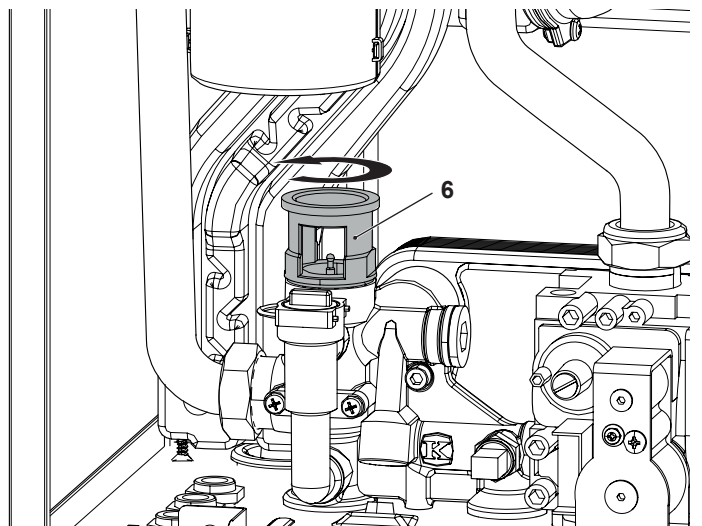

Figure 8.5
- 4 Unscrew the three way diverter valve "6" Figure 8.5.